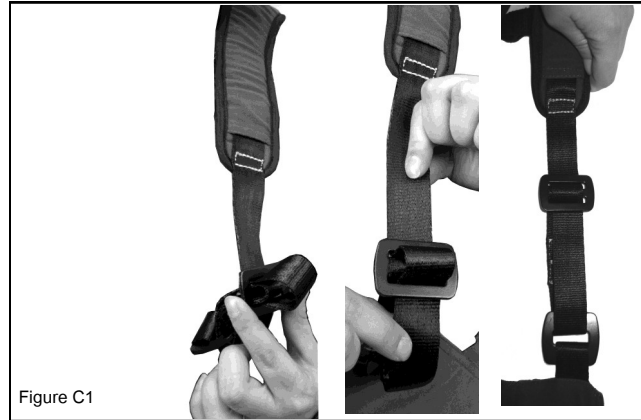

Figure C1
1. Height Adjustment: To tighten and loosen height adjustment, adjust using the Tri-Bar Adjuster on the Front Vertical Adjustment Strap (Figure C1). This adjustment will also affect where the lower portion of the bib will fall in relation to your legs. Repeat for other side. Make sure adjustment is equal on both sides.